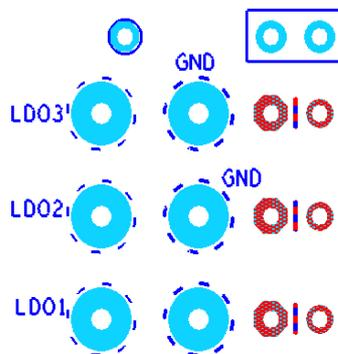

Figure 10. Locations for Measurement of LDO Regulator Output Voltages
5. Figure 10 shows locations on the PCB where the LDO regulator output voltages can be measured accurately. For each LDO regulator, there is a pair of pads with holes to which wires, pins, or connectors can be soldered, or an oscilloscope probe can be connected. The larger of each pair of pads is the positive; the smaller pad is ground.